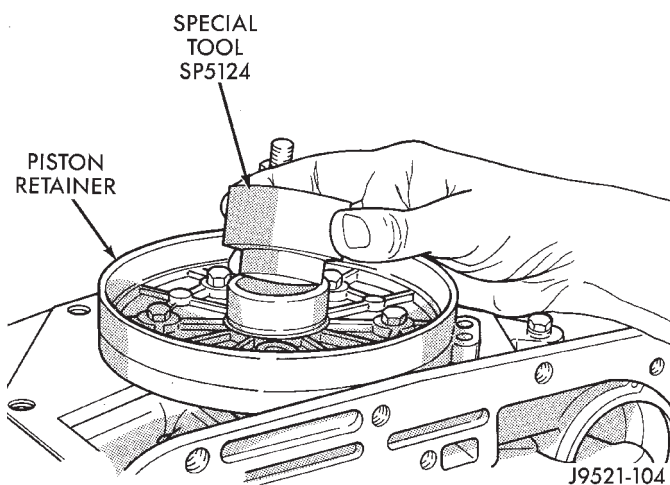

Fig. 148 Positioning Adapter Tool In Overdrive Piston Retainer
(4) Insert Adapter Tool SP-5124 into piston retainer (Fig. 148).